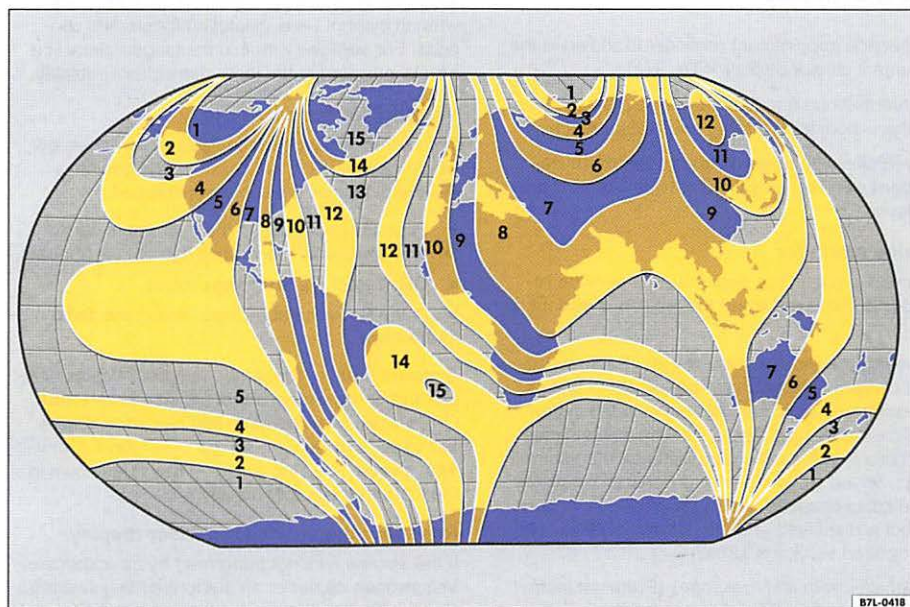

Fig. 11 Compass zones.
- Select the compass zone according to the current location ⇒ **fig. 11**.